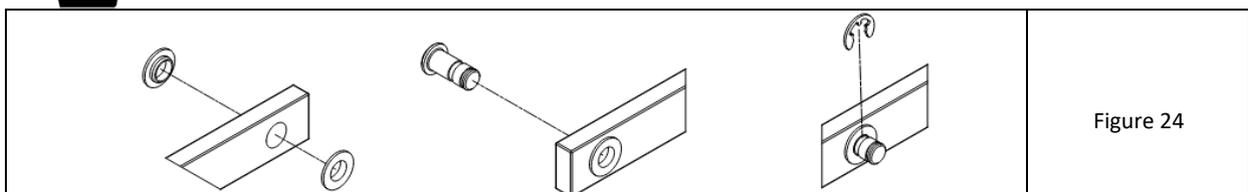

Figure 24
1. Fit small slip rings in the drive linkage - on both sides of each linkage hole (fig. 24-left).
2. Then push the steel pin (fig. 24-centre) fully into each hole with the rings in place and, from the side opposite its head, insert a small circlip in the groove further from the end (fig. 24-right) using a dedicated tool.